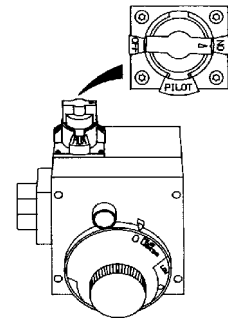

Figure 12
8. At arms length away, turn gas control knob counter-clockwise  to the full "ON" position. **WARNING: Do not use gas control knob to regulate gas flow.** (Figure 12)